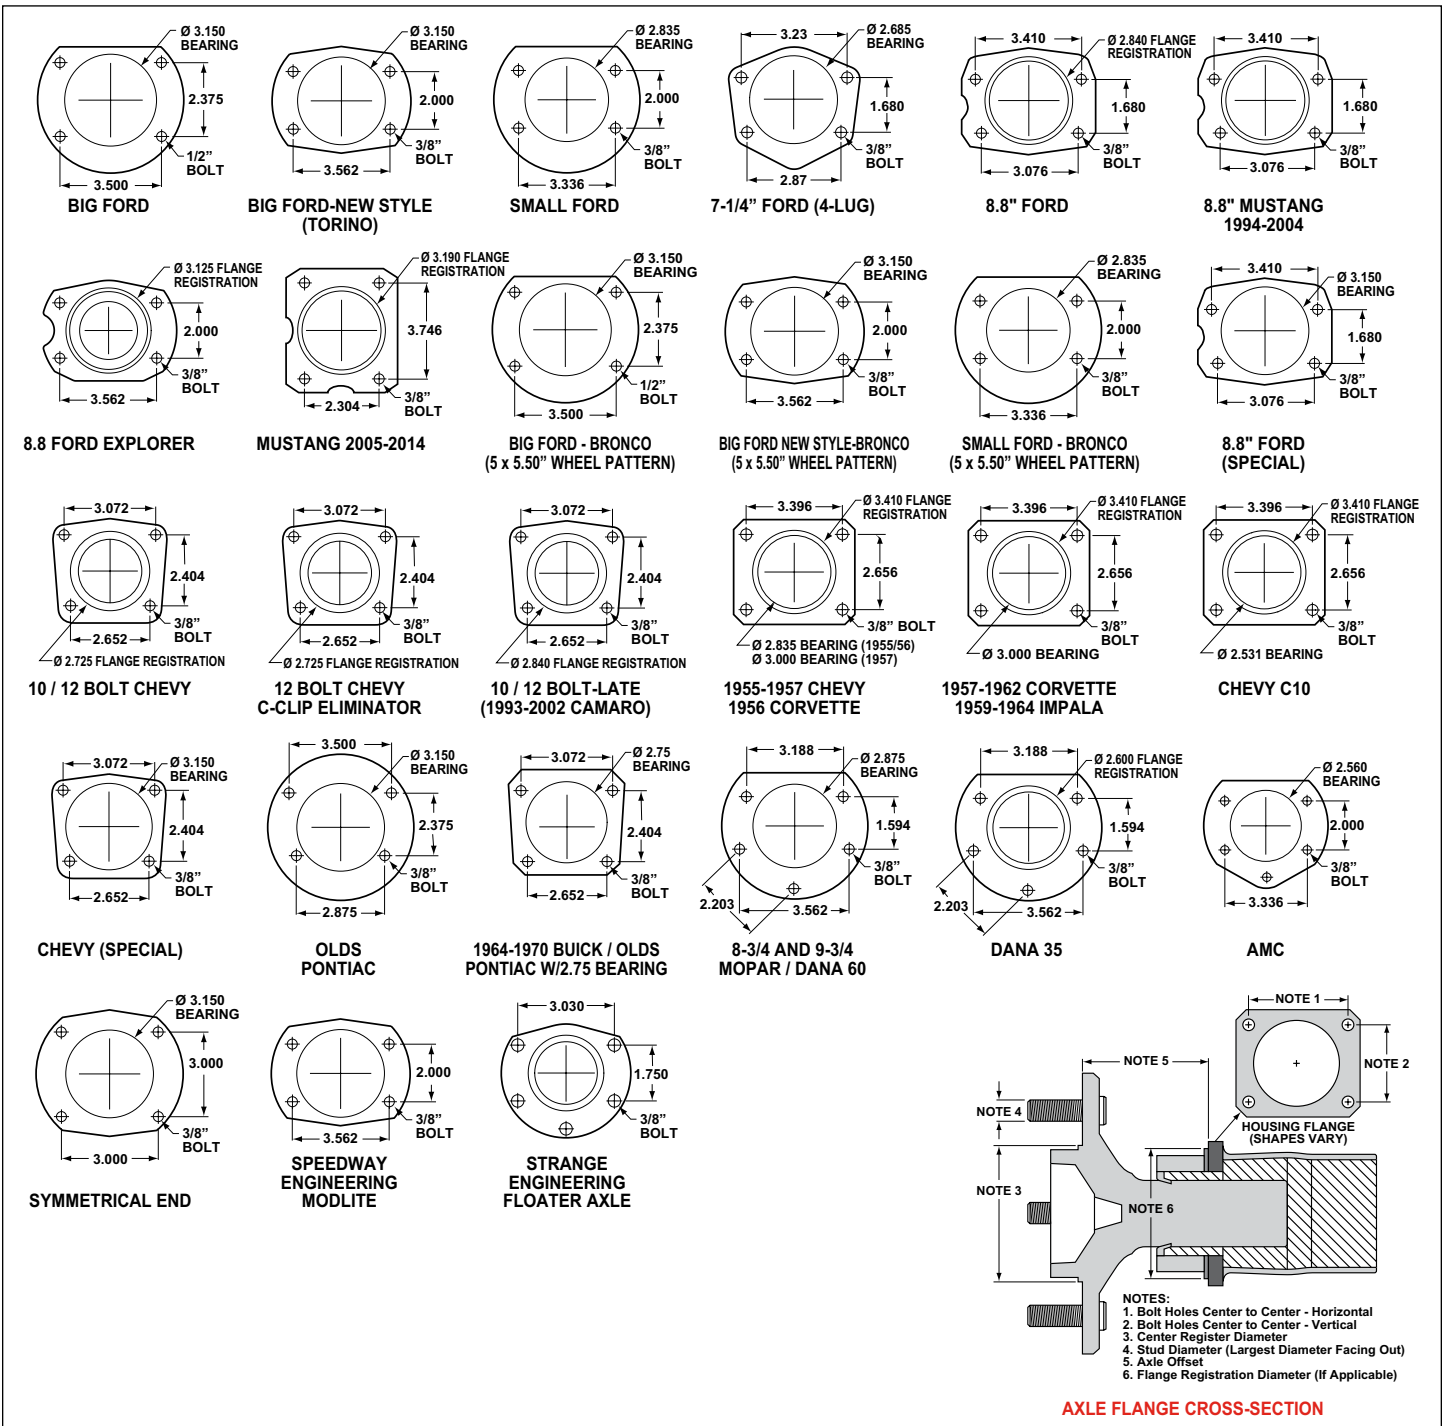

Figure 4. Rear Housing Flange Chart and Axle Flange / Offset Cross-Section
- Make sure this is the correct kit to fit the exact model rear end. This kit is designed to fit the Strange Engineering floating rear axle and hub using the Strange Engineering floater axle mounting flange shown in Figure 4.